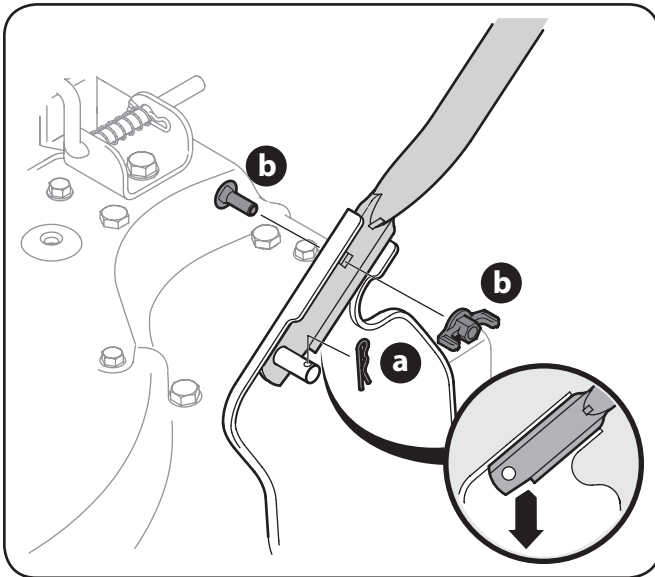

Figure 3-1
- a. Place the bottom holes in lower handle over the pins on the handle brackets with notch in handle pointing downwards and secure with hairpin clips. See Figure 3-1.
- b. Insert carriage screws through upper hole in lower handle from the inside and secure with wing nuts. See Figure 3-1.